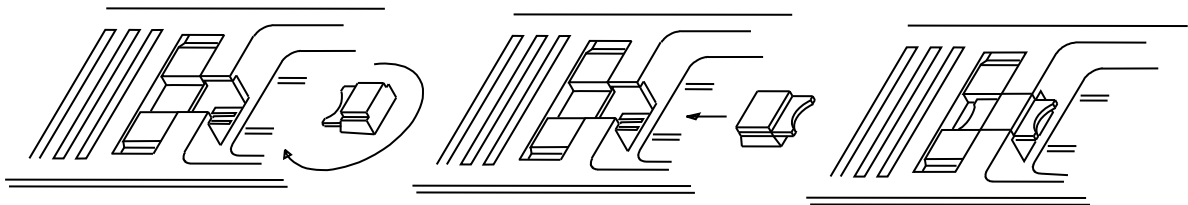

FIGURE 5-9. Rotating the Handset Hook
- c. Rotate the hook and slide it back into its slot so that the bottom part now sticks out from the top. Snap the hook firmly into place. See Figure 5-9.